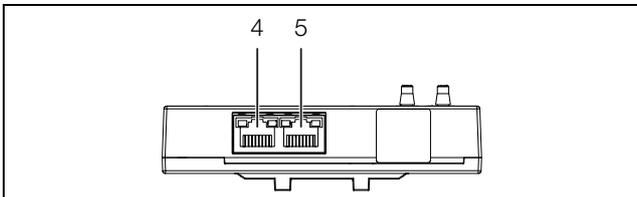

Fig. 11: Rear of the differential pressure sensor
- Use a CAN bus connection cable to connect the differential pressure sensor to a CAN bus interface on the CMC III Processing Unit or the neighbouring component on the CAN bus (fig. 11, item 4).
- If necessary, connect another component (e.g. another sensor type) to the second, free CAN bus interface of the differential pressure sensor (fig. 11, Item 5).